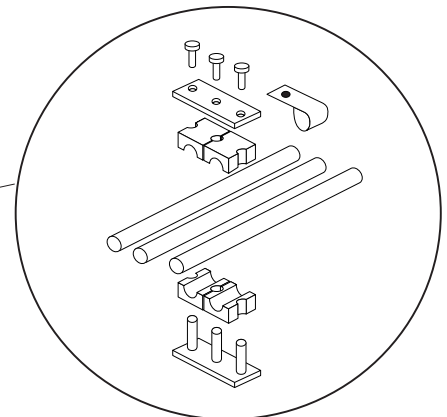

Fig 4.5.2 Hose Clamp Assembly
- Lightly clamp dipper arm hoses into position, do not fully tighten at this stage. (Fig 4.5.2)